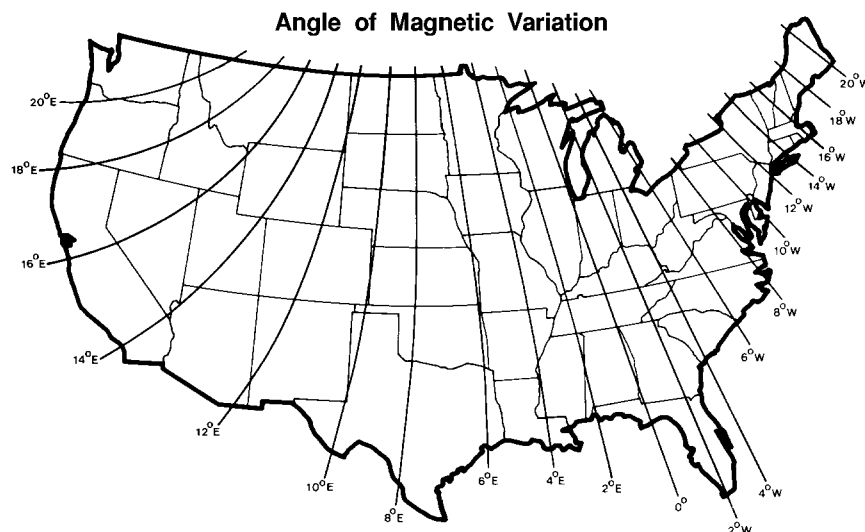

Figure 8. Magnetic Variation Map of the U.S.
In many municipalities, streets and buildings are constructed in a North/South and East/West orientation. In this case, the antenna may be oriented relative to a building or street direction. A more accurate method of determining True North is with a magnetic compass, then applying a correction factor known as magnetic variation. Magnetic variation is the difference in degrees between True North and Magnetic North. The magnetic variation value depends on your geographic location. Figure 8 provides the magnetic variation values for the Continental United States.
2. On the map (refer to figure 8), note that the magnetic variation for eastern New York is  $14^{\circ}$  W.
The antenna ground lug must be connected to the plate using the hardware provided. See Figure 8. Once again, it may be affixed to any vacant hole in the plate.